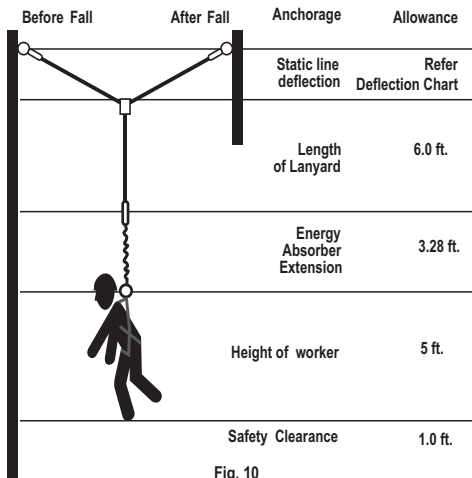

Fig. 10
**Fall Clearance:** There must be sufficient clearance below the anchorage connector to arrest a fall before the user strikes the ground or an obstruction. When calculating fall clearance, account for a MINIMUM 4ft safety factor, deceleration distance, user height, length of lanyard/SRL, and all other applicable factors as shown in Fig. 10.